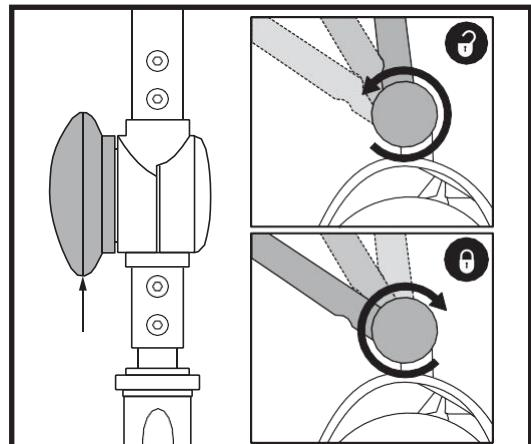

Figure 23. Tiller Adjustment Knob
TILLER ANGLE ADJUSTMENT (See figure 23)
1. With the seat and battery pack removed (see Disassembly Procedures on previous page), lower the tiller and tighten the tiller adjustment knob. See **figure 23**.
3. Raise the tiller and fully tighten the tiller adjustment knob. See **figure 23**.